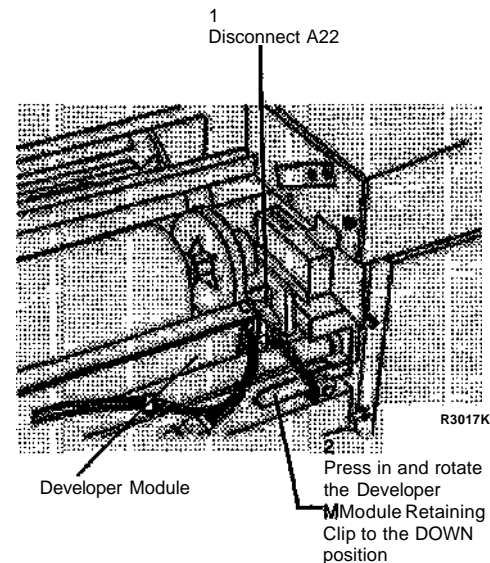

Figure 7. Preparing to Remove the Developer Module
13. (Figure 7): Prepare to remove the Developer Module.